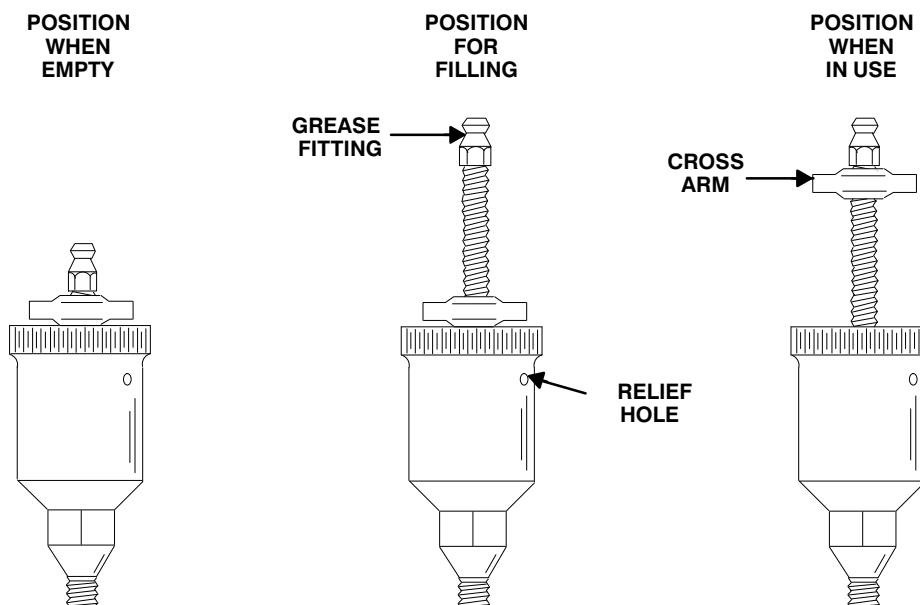

Figure 4. Automatic Lubricating Grease Cup
Fill the grease cup (15) through the grease fitting with No. 2 lithium base grease until grease escapes from the relief hole. Turn the grease cup arm counterclockwise until it is at the top of the stem; this will release the spring to apply grease to the seal (see Figure 4).